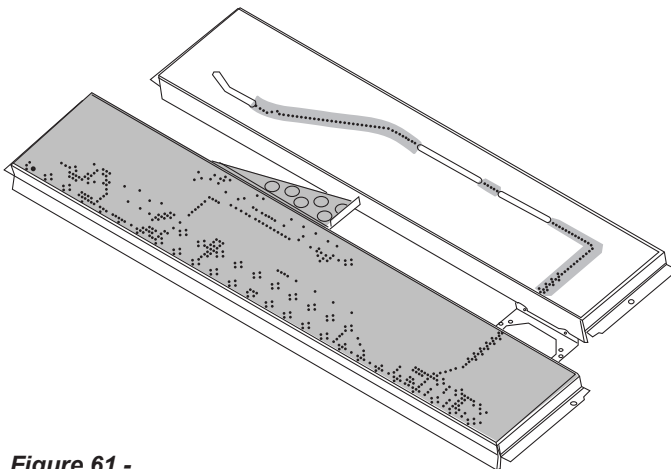

Figure 61 -
2. Distribute one layer of rock wool to cover the burner. *Figure 61*
The flames from the pilot should be visually checked as soon as the heater is installed and periodically during normal operation. **The pilot flame must always be present when the fireplace is in operation.** Figure 61. The pilot flame has four distinct flames, one engulfing the thermopile, one engulfing the thermocouple or sensor, and the remaining reaching to the main burners.